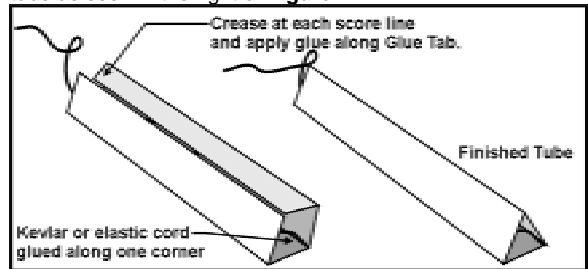

Figure 2
2. Referring to **Figure 2**, crease the Body Tube along these score lines. Apply a thin bead of glue along the inside of one corner, to within 1" of the top of the tube. Lay your **Kevlar®** cord into this corner to anchor it in place (**NOTE:** If you are not using Kevlar, glue your elastic cord in its place, 2" from the top). Now apply a film of glue along the full length of the Glue Tab and complete your Body Tube by gluing this Tab to the inside of the other edge of the Body Tube. Your finished tube should look like a long triangular tube as seen in the right of **Figure 2**.